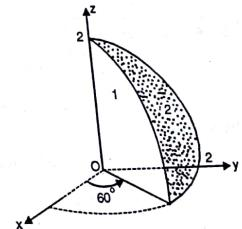

Fig. P. 6.7.21
Ex. 6.7.21 : Find areas (1) and (2) for the surfaces shown in Fig. P. 6.7.21.